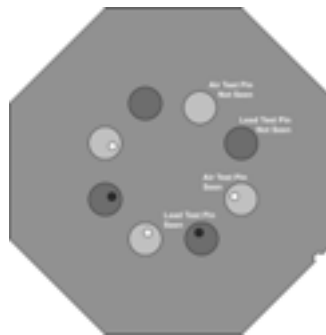

Figure 4. Working Thickness Range. Three examples of white clipping and two examples of black clipping
- **Low contrast detectability** Four sets of holes with diameters of 4, 3, 2, and 1 mm are filled with elemental iodine dispersed in epoxy. The relative areal concentration of iodine in the four patterns is 20, 10, 5, 2.5 mg/cm². The test operator is required to identify the smallest visible pair of targets in each pattern. See Figure 4.
- **Working thickness range** The ability to image structures overlaid by bone or air. Systems with inadequate single-image latitude are unable to do this in bright (air) or dark (bone) portions of the image. The NEMA Cardiology Phantom contains eight cylinders composed of different heights of air, aluminum and plastic. These cylinders are calibrated for a total 20 cm phantom thickness. A 50 mm deep air challenge target overlaps the four air cylinders. The bright side dynamic range is determined by how many of these targets are seen. A 5 mm lead challenge target overlaps the four aluminum cylinders. The dark side dynamic range is determined by counting these targets. See Figure 4.